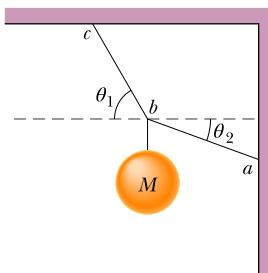

Figure 12.63 Problem 72.
- 72** The system in Fig. 12.63 is in equilibrium. The angles are  $\theta_1 = 60^\circ$  and  $\theta_2 = 20^\circ$ , and the ball has mass  $M = 2.0 \text{ kg}$ . What is the tension in (a) string ab and (b) string bc?